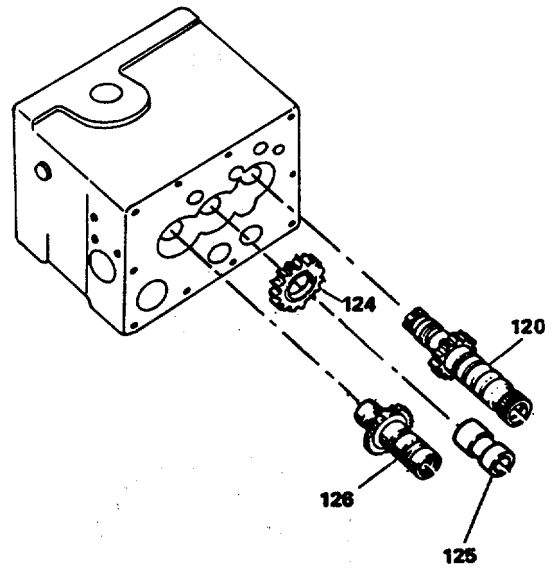
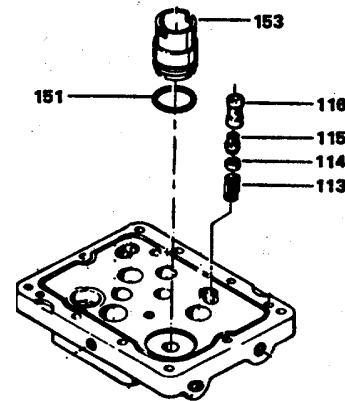
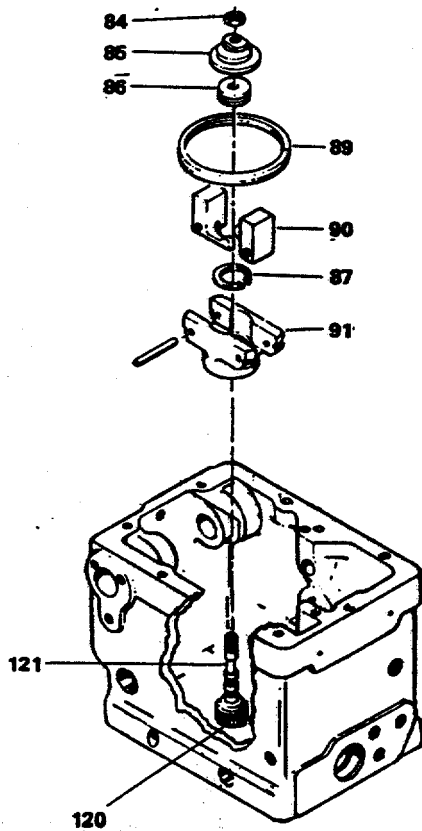

Figure 12-20. Bushing Assemblies
Figure 12-21. Relief Valve and Piston Sleeve Assembly
Figure 12-22. Ball Head Assembly
- (15) Refer to figure 12-20.
- (a) If idler gear stud (125) has been removed (although this should not be necessary), press it into case until its end is just below face surface.
- (b) Insert pilot valve bushing assemblies (120 and 126) and idler gear (124) into case as shown. Gears should all mesh.
- (16) Refer to figure 12-21.
- (a) Lubricate packing (151) and place it on load sensing sleeve (153) and insert sleeve into case.
- (b) Insert sleeve (116), plunger (115), spring (112), and spacer (114) into case.
- (17) Place ballhead assembly (91) in case on pilot valve plunger (121). Secure with retaining ring (87). (See figure 12-22.) :
- (18) Install thrust bearing (86), speeder spring seat (85) on pilot valve plunger (121) and secure with nut (84). Do not tighten nut (84).
valve plunger is centered, tighten nut (84), figure 12-22, to 70 inch-pounds (8 joules).